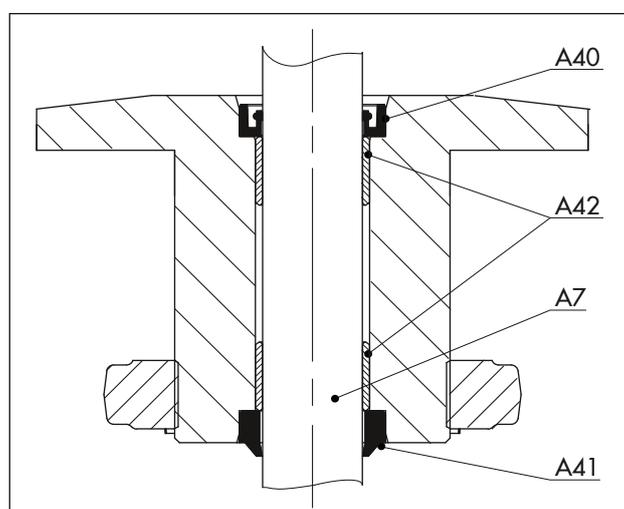

**Fig. 14:** Aligning the radial shaft seal and wiper ring
6. Use a suitable tool to mount the radial shaft seal. Observe the correct alignment of the radial shaft seal (see Fig. 14).